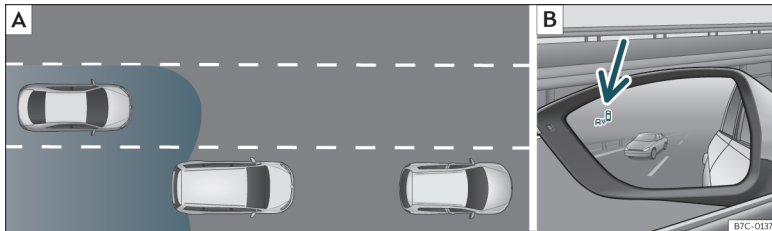

Fig. 222 Schematic diagram: [A] Passing situation with traffic behind the vehicle. [B] Indication from the blind spot detector in the left-hand external mirror.
The radar sensors are located on the left and right of the bumper and are not visible from the outside »» Fig. 221. The sensors monitor both the blind spot and traffic behind the vehicle »» Fig. 222, »» Fig. 223. The range to the sides of the vehicle is a bit larger than the width of a lane.
>>> **Fig. 222 [B]** (arrow) or >>> **Fig. 223 [B]** (arrow):
- When being overtaken by another vehicle >>> **Fig. 222 [A]**.